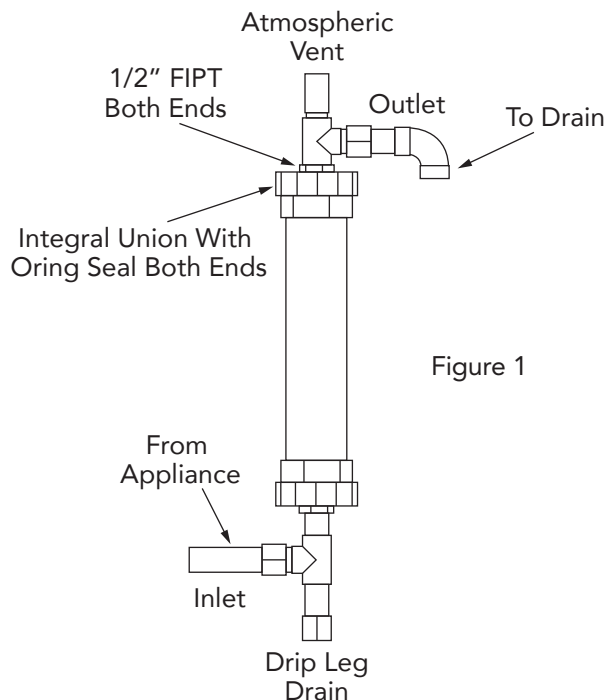

Figure 1
- It is recommended that Neutra-Safe condensate neutralizers be installed as close as possible to the outlet of the gas trap. **Refer to Figure 1 for proper piping layout.**